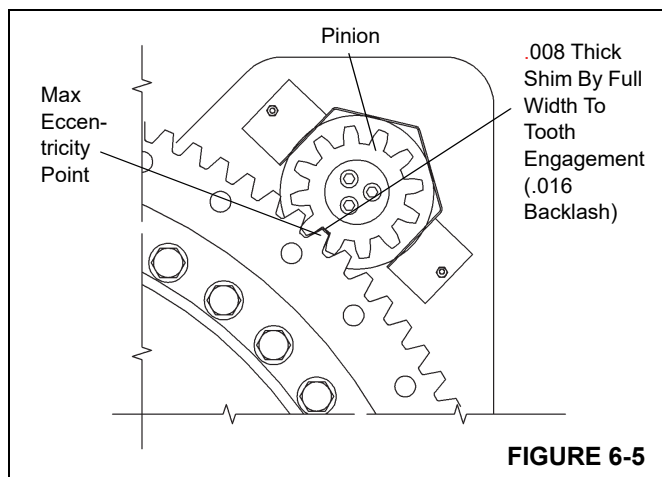

FIGURE 6-5
5. Install a swing gearbox and brake assembly. Align the gearbox pinions with the swing bearing. Align the swing gearbox pinion with the high point (maximum eccentricity) on the turntable bearing. Using a 0.203 mm (0.008 in) thick shim, check backlash (Figure 6-5). If the pinion must be moved to achieve proper backlash, contact your local distributor. For more information about installing swing gearbox and brake assembly, see *Swing Gearbox And Brake*, page 6-4.